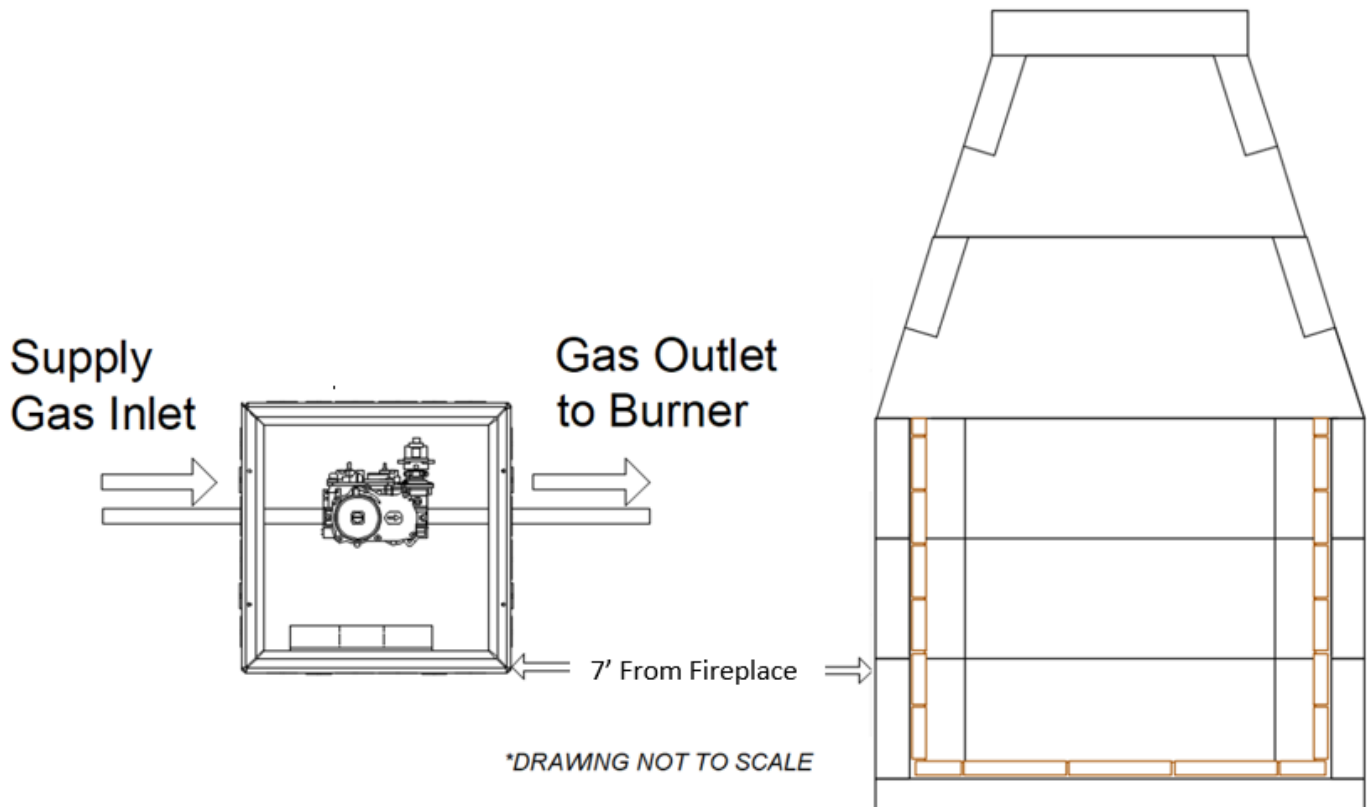

FIGURE 34
1. The valve control box comes with a 110" pilot assembly lead; therefore, the box must be mounted within 7' of the fireplace. **(Figure 34)**